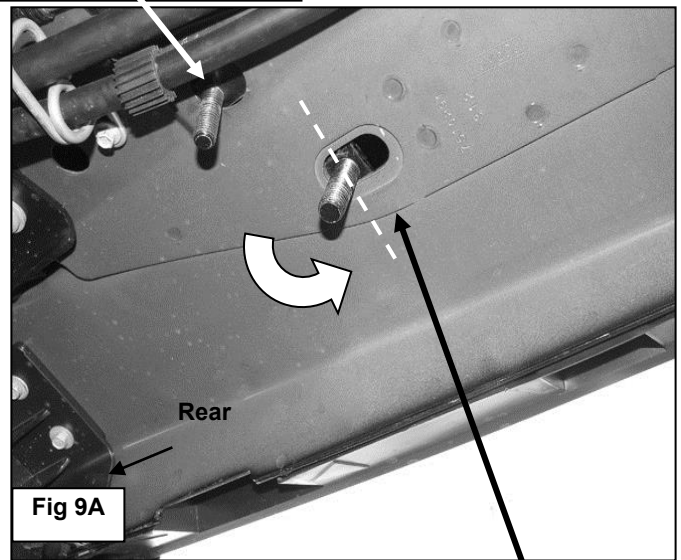
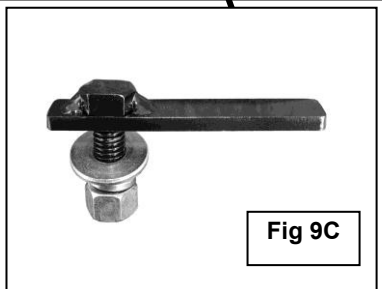

Fig 9A
Fig 9C
6. Move toward the rear location. Locate the oval and round holes in the floor panel toward the rear of the vehicle, **(Figure 9A)**. Insert (1) 10mm x 35mm Bolt Plate into the round hole, **(Figure 9B)**. Insert (1) 12mm x 40mm Long Bolt Plate into the oval hole next to the pinch weld, **(Figure 9C)**. Rotate the 12mm Bolt Plate 90-degrees so that the plate is across the oval hole.